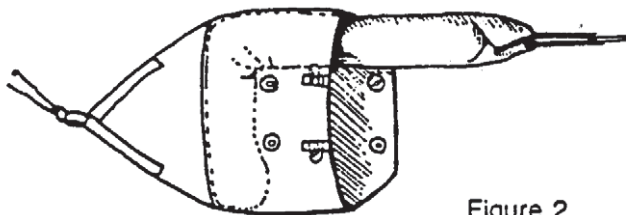

Figure 2
- b. Begin folding the canopy into the bag. Tuck the top well into the corner of the bag. Then stuff one-half of an "S" fold of the canopy into the upper edge of the bag as shown in **Figure 2**.